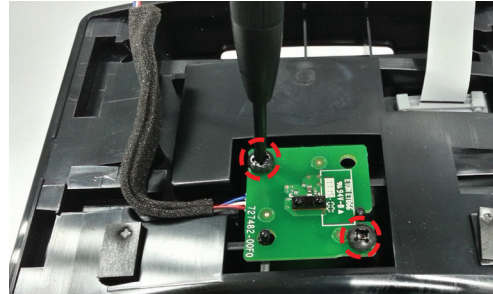

Figure 8. IR PCB, Screws
2.2 Figure 8. Remove the two screws securing the IR board.